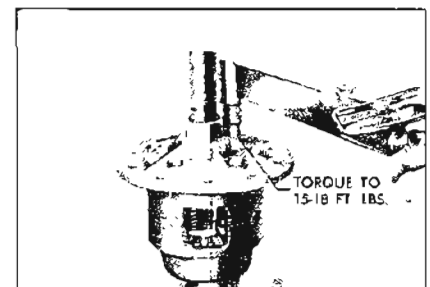

Figure 6-43—Torquing Differential Bolts
9. Install other axle shaft through flange half of differential case rotating axle to enter cone splines. Leaving the axle shaft in this position, insert remaining bolts and tighten to 15-18 ft. lb. See Figure 6-43.